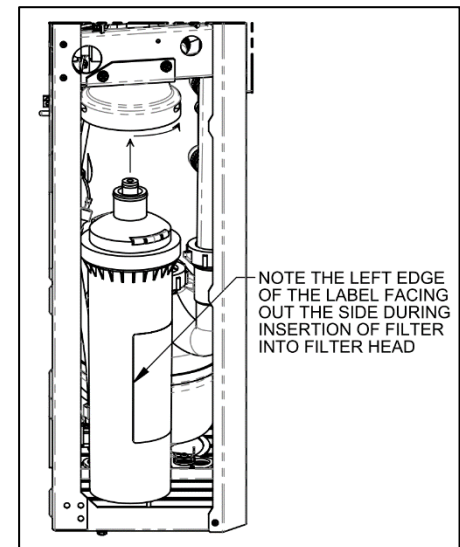

Figure 5: Filter Replacement
1. Remove the (4) screws holding the skirt to the bottom of the frame. Then remove the skirt by sliding the skirt away from the lower unit.
5. Install the new filter by pushing up and turning counterclockwise (as viewed from above). Note the label orientation in Figure 5.